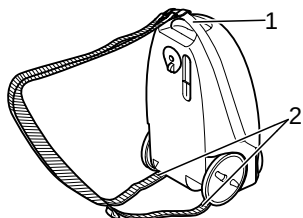

Fig.12
1. Secure the hook for the shoulder strap on to the handle (Fig. 12/1). The shoulder straps must point to the bottom of the appliance.
3. Insert the shoulder strap clasps into both lower holders on the back of the appliance (Fig. 12/2).